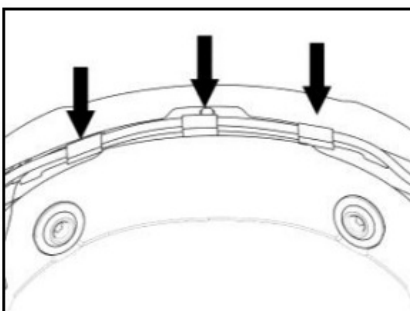

Fig. 30
- Position the wiring and the antenna at the back of the helmet (Fig. 30).